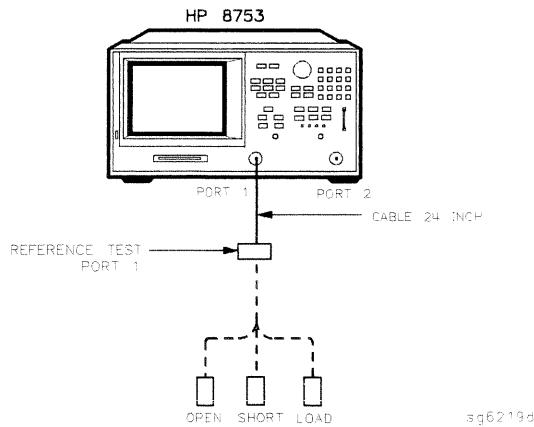

Figure 2-39. S11 1-Port Cal Test Setup
1. Connect the equipment as shown in Figure 2-39.
6. Connect an open to reference test port 1, as shown in Figure 2-39.